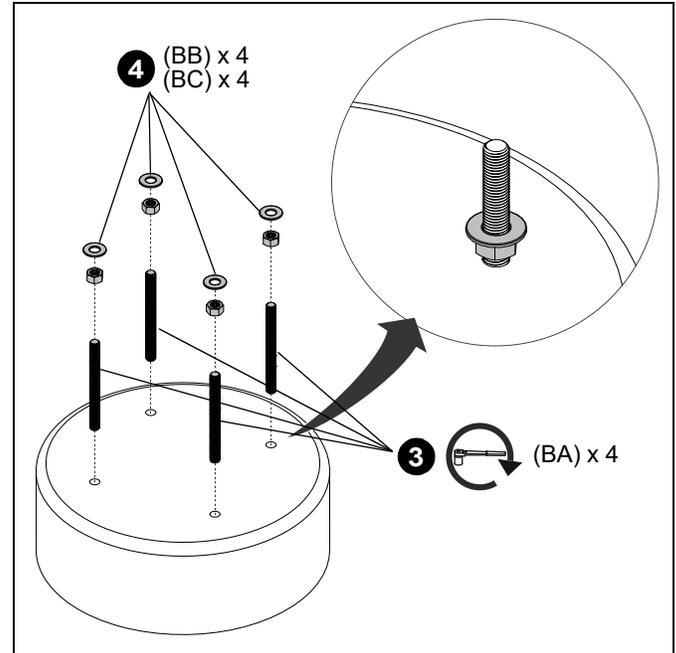

Figure 2
3. Install four wedge anchors (BA) in the pilot holes per the manufacturer's design specifications. Only use compatible hardware. (See Figure 2)
4. Install four hex nuts (BC) and four flat washers (BB) onto the threaded rods or wedge anchors (one per rod/anchor). (See Figure 2)